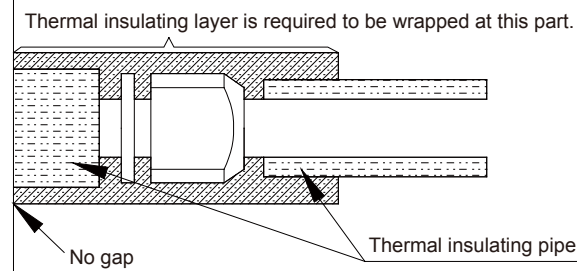

Fig 9
(1) The refrigerant pipe should be insulated by the insulating material and plastic tape in order to prevent condensation and water leakage.
(2) The joints of the indoor unit should be wrapped with the insulating material and no gap is allowed on the joint of the indoor unit, as shown in Fig. 9.